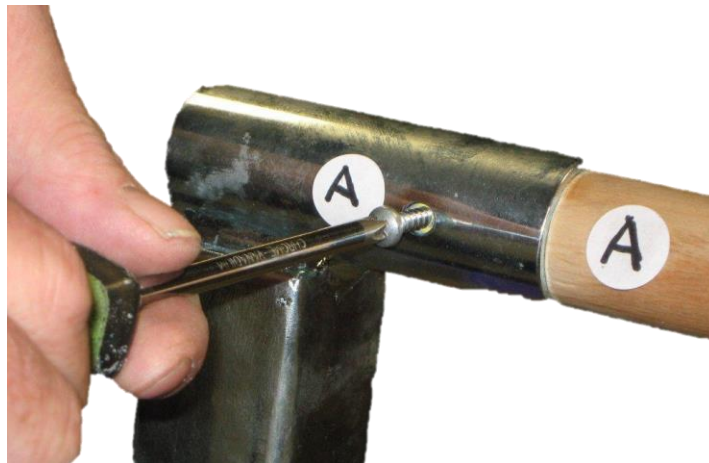

Figure 4: Veneered rail assembly
6. Assemble each end of the veneered rail to the adjusting tubes by threading the four (4) supplied Phillips screws into the adjusting tube and predrilled rail (see Figure 4 below). **Tighten properly.**